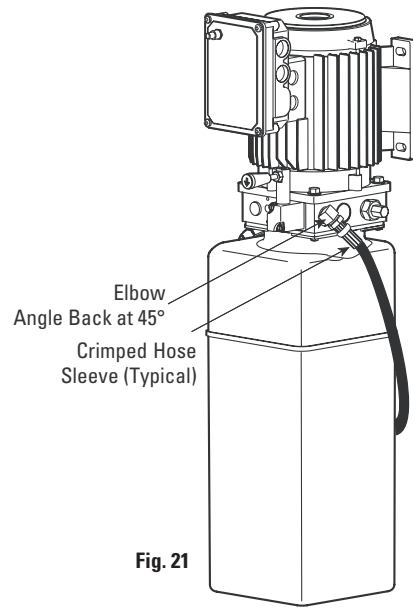

Fig. 21
- Install and hand tighten elbow to pump until O-ring is seated and elbow is oriented downward at approximately 45°, Fig. 21. Continue to tighten the locknut to 10-15 ft-lbs., or until the nut and washer bottom out against the pump manifold. NOTE: You may still be able to rotate the elbow. This is acceptable unless there is seepage at the o-ring. If so, slightly tighten the locknut.